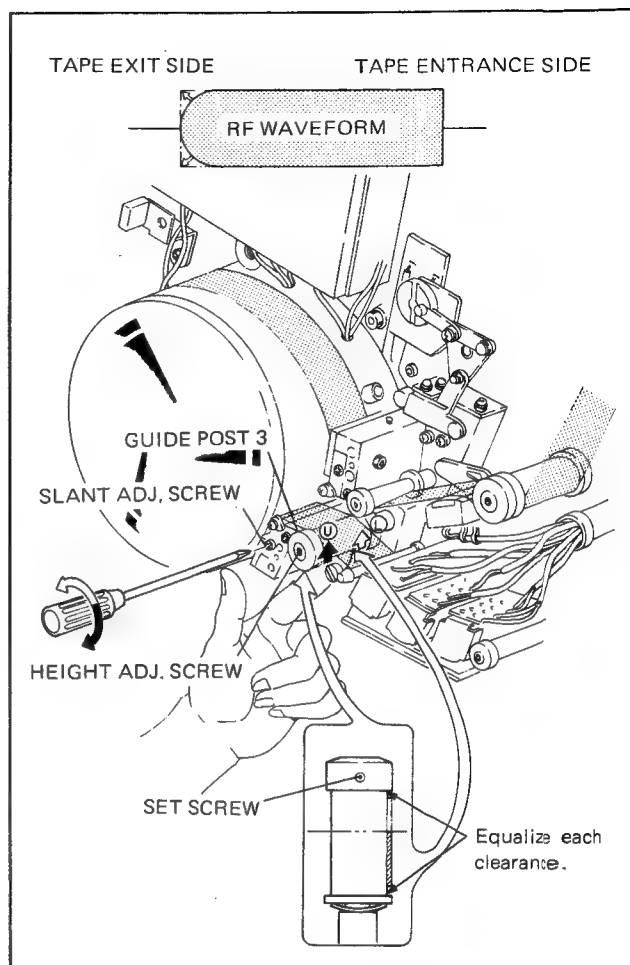

Fig. 3-75. Height Adjustment of Guide Post 3 and Slant Adjustment of Exit slant Guide.
22. Lightly push the **U** or **L** side of the tape shown in Fig. 3-75 and find out the side whose RF waveform on the tape exit side becomes flat.